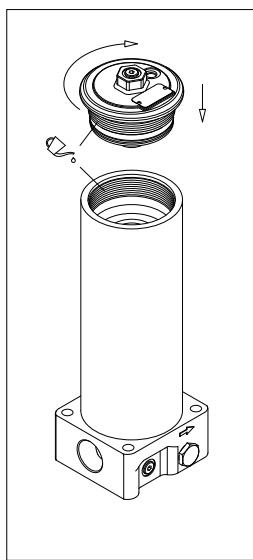

fig. 26
- (Fig. 26) Lubricate the O-ring and the threads of bowl and cover, then screw the cover in referring to the tightening torque table in paragraph 3